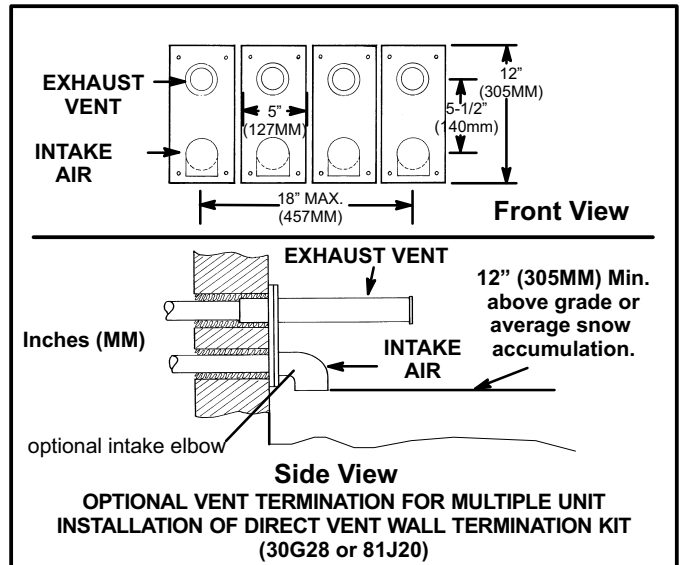

FIGURE 33
8. A multiple furnace installation may use a group of up to four terminations assembled together horizontally, as shown in figure 33.